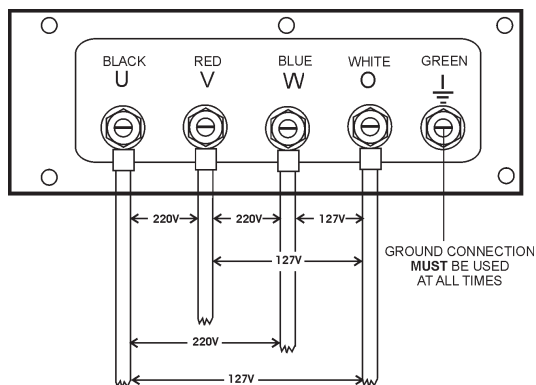

Figure 23. Output Terminal Lugs 3Ø 220/127V Connections
2. Connect the load wires to the **Output Terminal Lugs** as shown in (Figure 23).